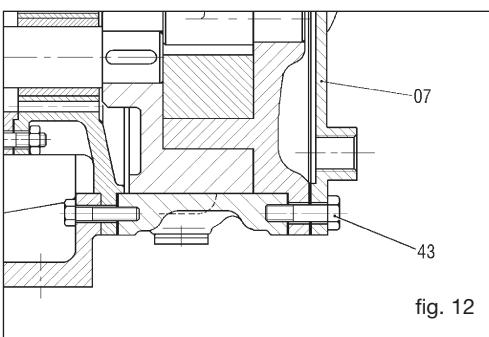

fig. 12
- If the pump mounts a heating jacket on the cover (07), this will separate from the cover as soon as the screws are removed (43), see figure 12.